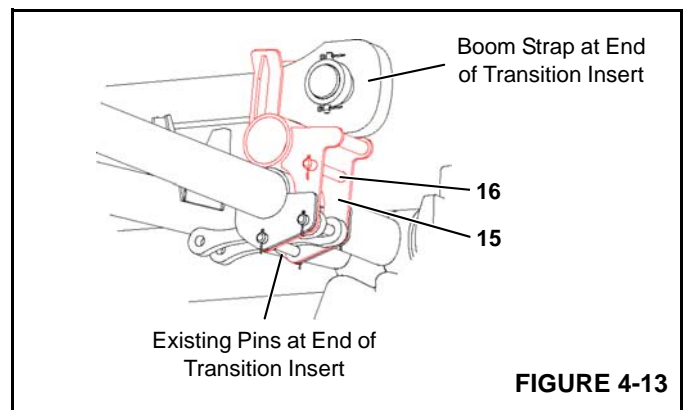

FIGURE 4-13
3. Install strap brackets (15, Figure 4-13) under the top end of the straps on the transition insert.